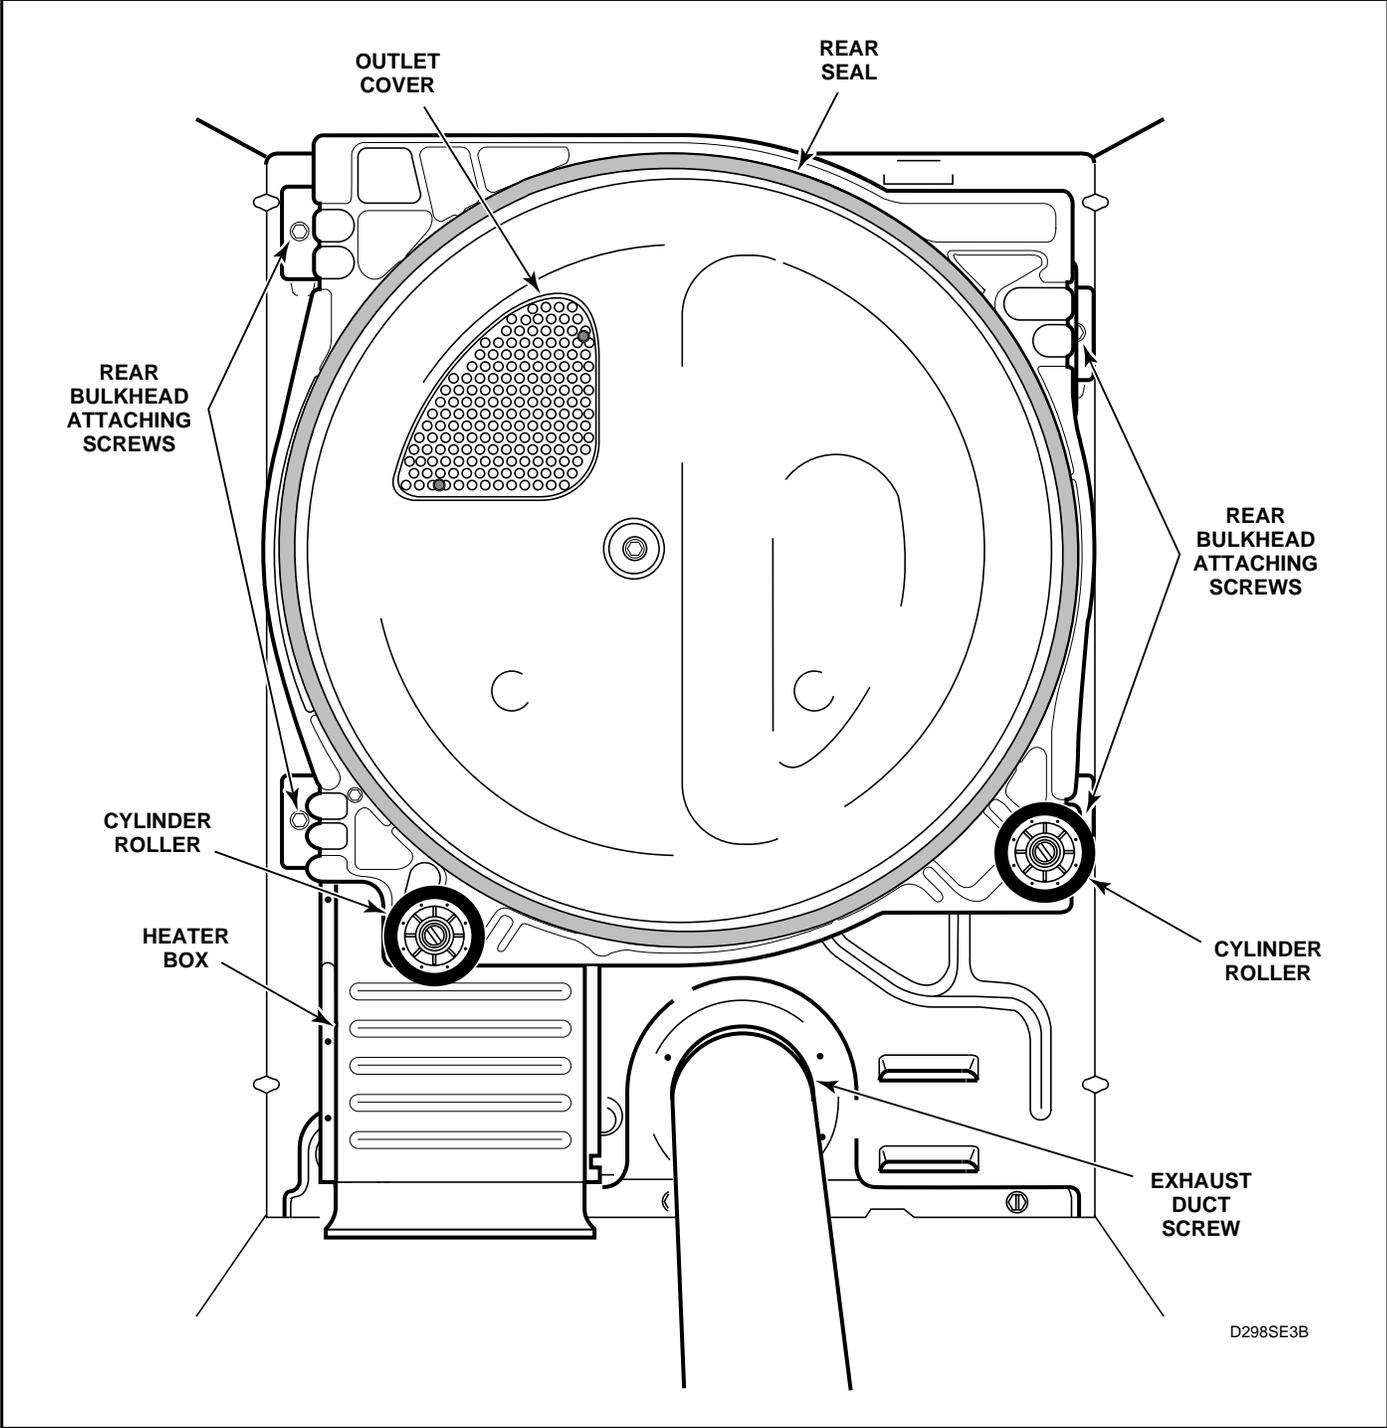

Figure 52
- j. Pull rear cylinder seal from flanged edge of bulkhead. See *Figure 52*.
- Open door and remove two screws holding outlet cover to rear bulkhead. See *Figure 52*.
- (4.) While supporting bulkhead, remove the four screws holding rear bulkhead to dryer cabinet, then lift complete assembly out of dryer. See *Figure 52*.